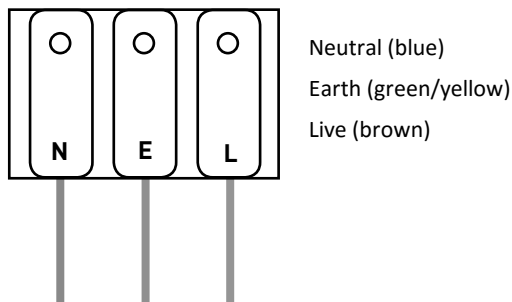

Fig 1
- Connect Live (brown), Neutral (blue) and Earth (green/yellow) to the 3-way terminal block in the base of the fitting (see Fig 1)